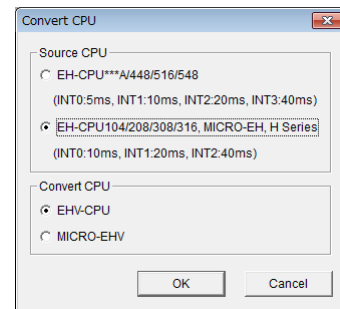

Fig. A2.1.5 Choose CPU type
- 3] Choose Source CPU type and Convert CPU type and click [OK] button. (Fig. A2.1.5)